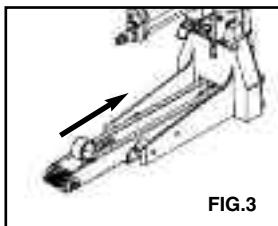

FIG.3
- C) Insert 2 sticks of staples into the channel and gently release the pusher against the staples. (Fig 3)